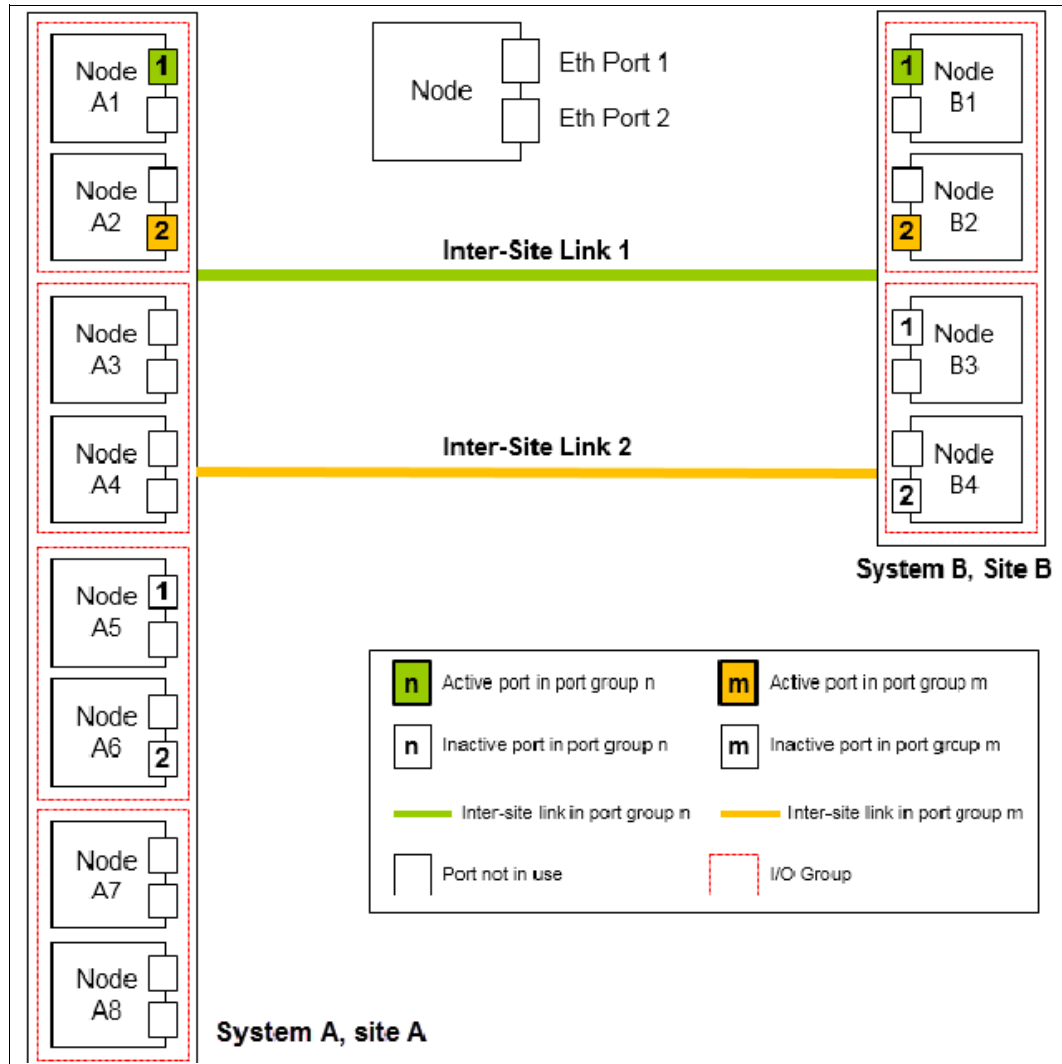

Figure 10-104 Multinode systems (two I/O groups on each system) with dual inter-site links between the two systems
- Eight-node system in IP partnership with a four-node system over dual inter-site links, as shown in Figure 10-104 on page 689 (configuration 7).
As shown in Figure 10-104, an eight-node System A in Site A and a four-node System B in Site B is used. Because a maximum of two I/O groups in IP partnership is supported in a system, although four I/O groups (eight nodes) exist, nodes from only two I/O groups are configured with RC port groups in System A. The remaining or all of the I/O groups can be configured to be RC partnerships over FC.